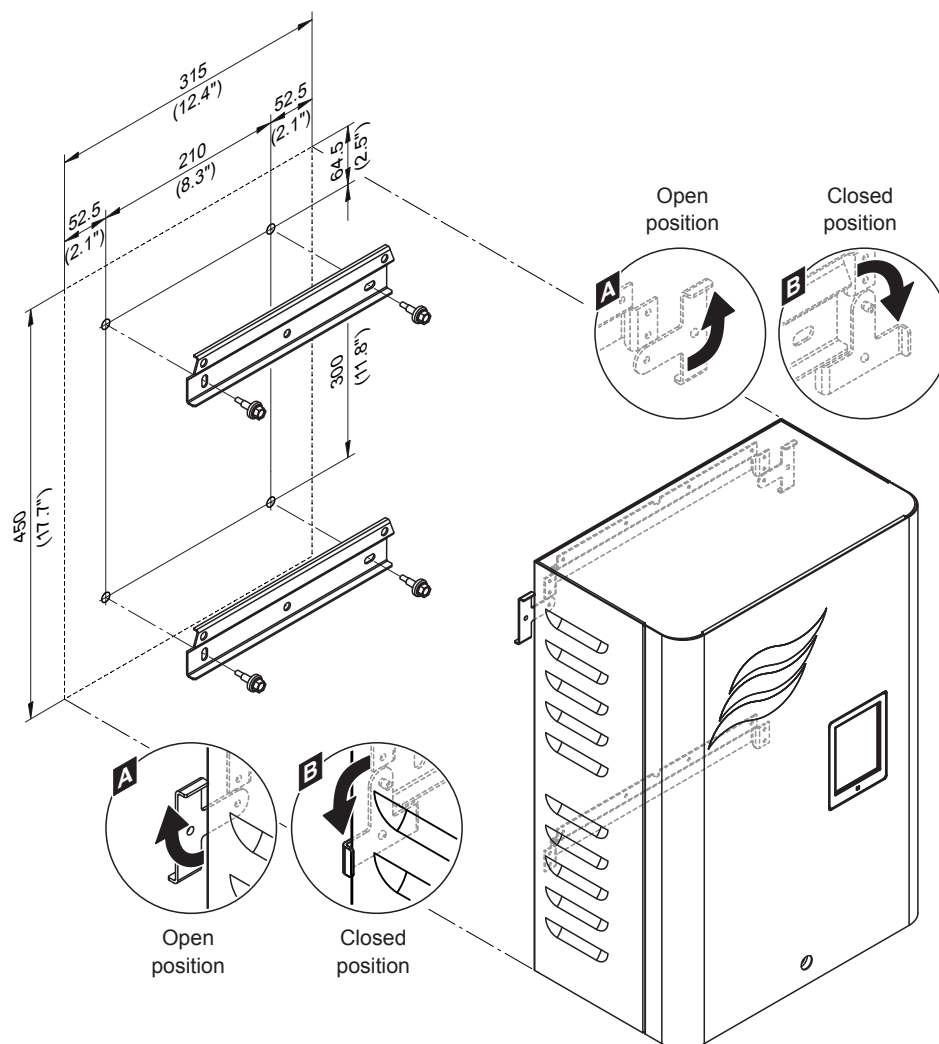

Fig. 34: Mounting the control unit of Condair ME Control
3. Move the locking hooks on the back of the control panel to open position (see detail "A" in Fig. 34).
5. Move the locking hooks on the back of the control panel to closed position (see detail "B" in Fig. 34) in order to fix the control unit to the upper wall support.